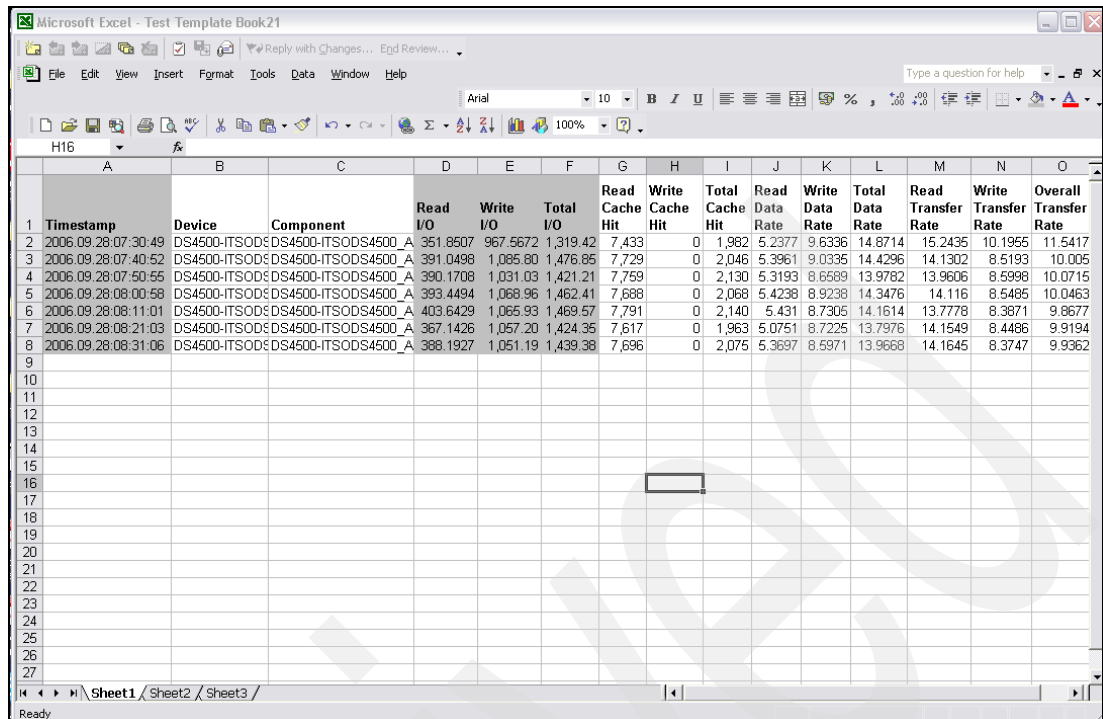

Figure 6-74 Select columns to create a graph
1. Select the columns that you want to plot onto the graph, for example, Timestamp, Read I/O, Write I/O, and Total I/O. In Figure 6-74 on page 299, we only select a few line entries of data.